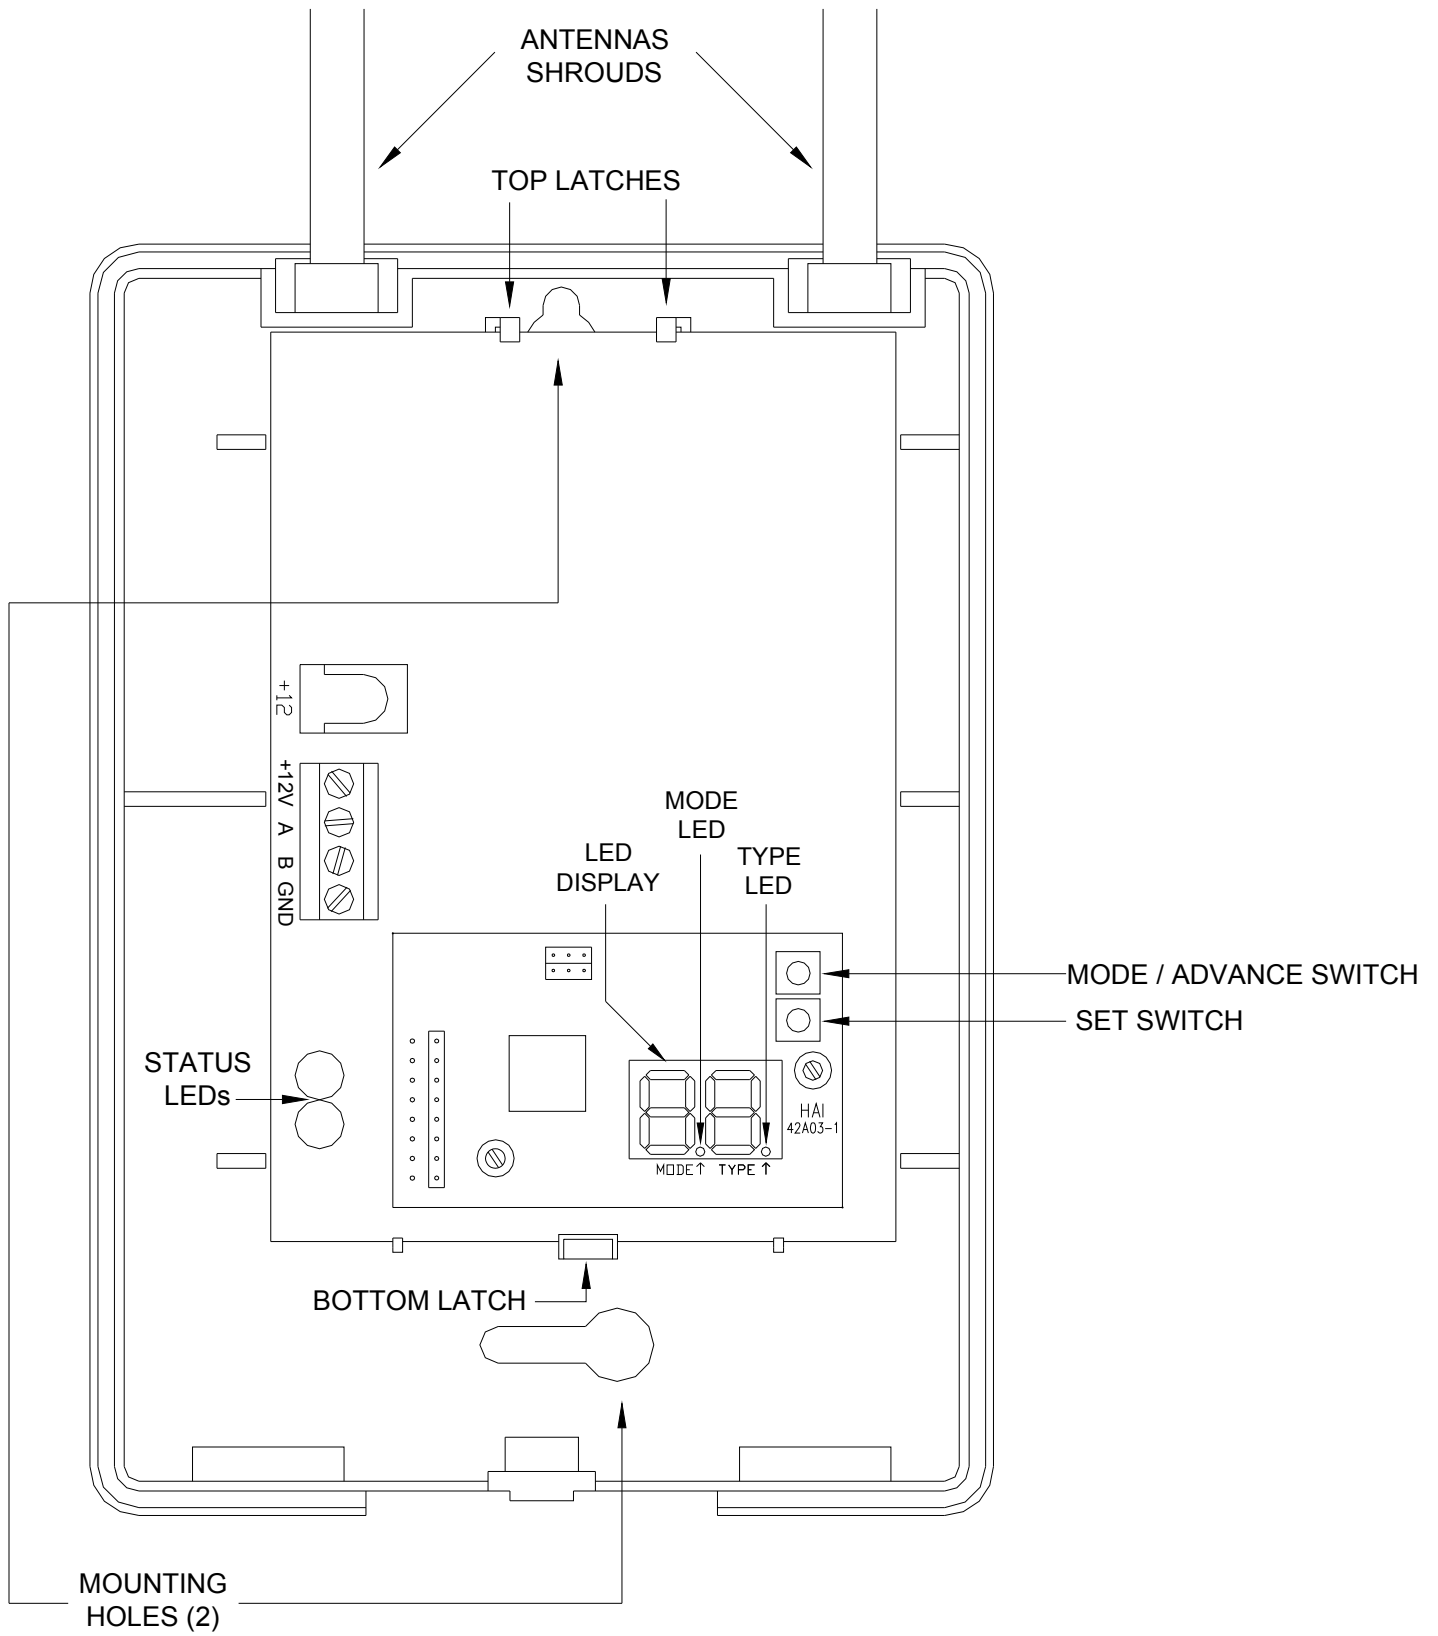

Figure 1
3. Hold the base against the mounting surface and mark the two (2) mounting holes (see Figure 1). Remember to allow at least a 9-inch clearance to mount the antennas.
6. Insert the antennas into the supplied antenna shrouds (see Figure 1).
8. Snap the circuit board in at the bottom latch and secure it in place (see Figure 1).
In Run Mode, with the receiver connected to and communicating with the controller, the Mode LED (see Figure 1) should blink once per second. The receiver monitors the status of each transmitter. If the status condition of a transmitter changes, it is reported to the receiver and the information is updated on the LED display and the Status LED will flash. The transmitter number flashes on the display whenever a report is received from a transmitter. The display will continually display the status of any transmitters that are violated (not ready) or that have trouble. The transmitter number flashes on the display followed by the status condition(s).
SET - The Set switch (see Figure 1) is used to increment or change the current selection.
MODE /ADVANCE - The Mode/Advance switch (see Figure 1) is used to enter Setup Mode, advance to the next Setup item, and to confirm a selection. It is also used to exit Setup Mode.
LED DISPLAY - The LED Display (see Figure 1) is used to show the status of each transmitter and to ensure proper setup.
MODE LED - In Run Mode, the Mode LED (see Figure 1) is used to indicate communication status with the controller. In Setup Mode, the Mode LED is used to indicate if a transmitter sends a restore code.
TYPE LED - In Setup Mode, the Type LED (see Figure 1) is used to indicate if a transmitter is supervised.